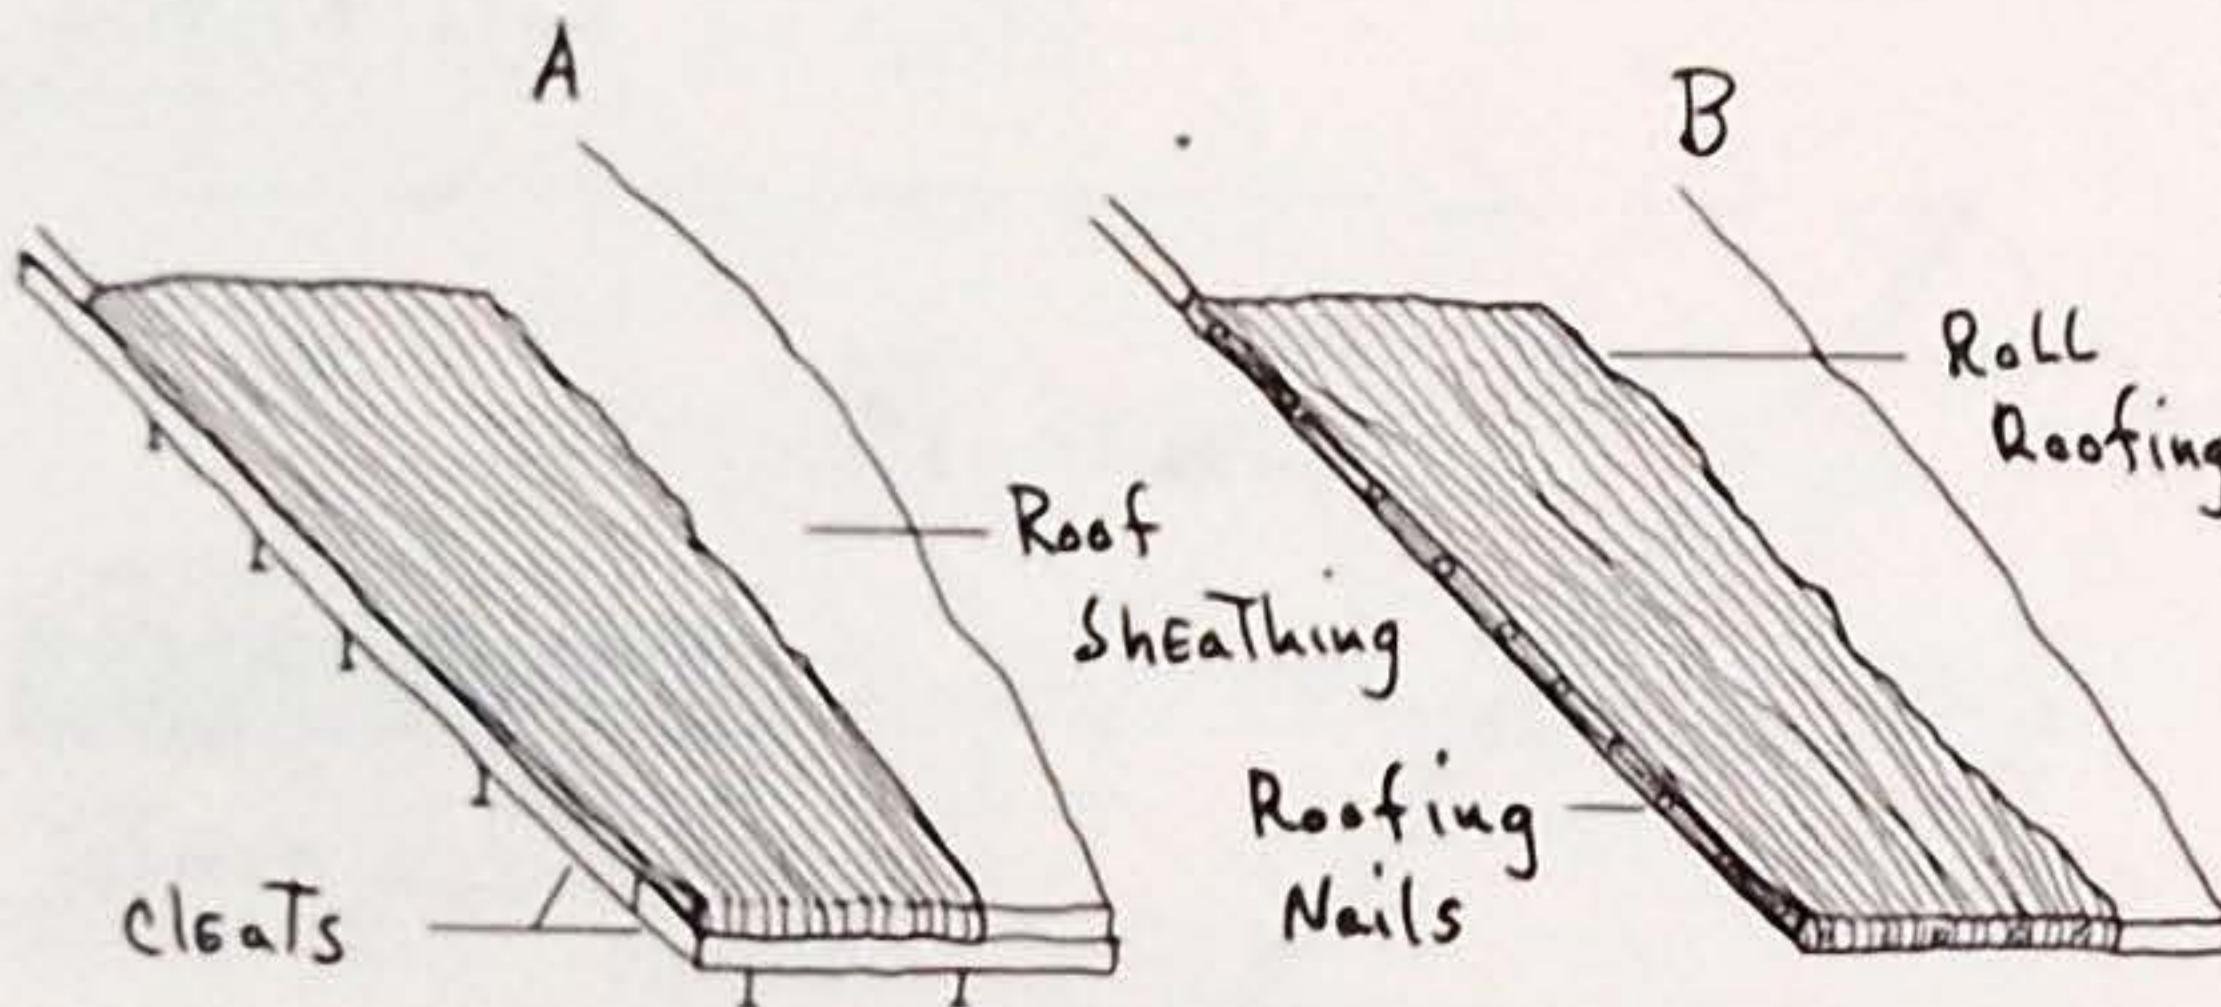

Fig. 30 - SECURING THE ROOFING AT THE EAVES
8. The most stress on roll roofing occurs at the eaves and along the gable ends where the wind constantly tears at the roof. There are two methods of anchoring the roll roofing at the eaves and gable ends that will increase the life of the roof. Fig. 30. In Fig. 30A the roofing is folded under the eaves and gable ends and held in place by pieces of 1x3". The 1x3" cleats run the length of the eave or gable end and are nailed from their underside into the sheathing. Fig. 30B shows a less durable method.